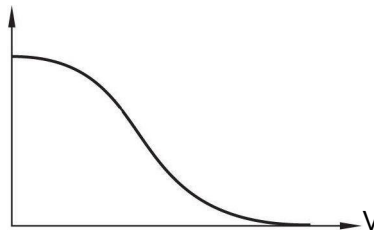

Figure 12-6-1 TF
- a) The soft starter will be under soft stop mode when code F2 is not set to 0. Figure 12-6-1 shows the output current wave of the soft stop mode. T is the soft stop time set by the code F2. Under this stop mode, power supply of the motor will be switched to thyristor output of the soft starter through the inbuilt bypass contactor, and the output voltage of the soft starter will gradually drop from the full voltage to enable the rotation speed of the motor reduce smoothly to avoid mechanical shock until the motor stops running. The output cut-off voltage during soft start shall be equal to the starting voltage during start.